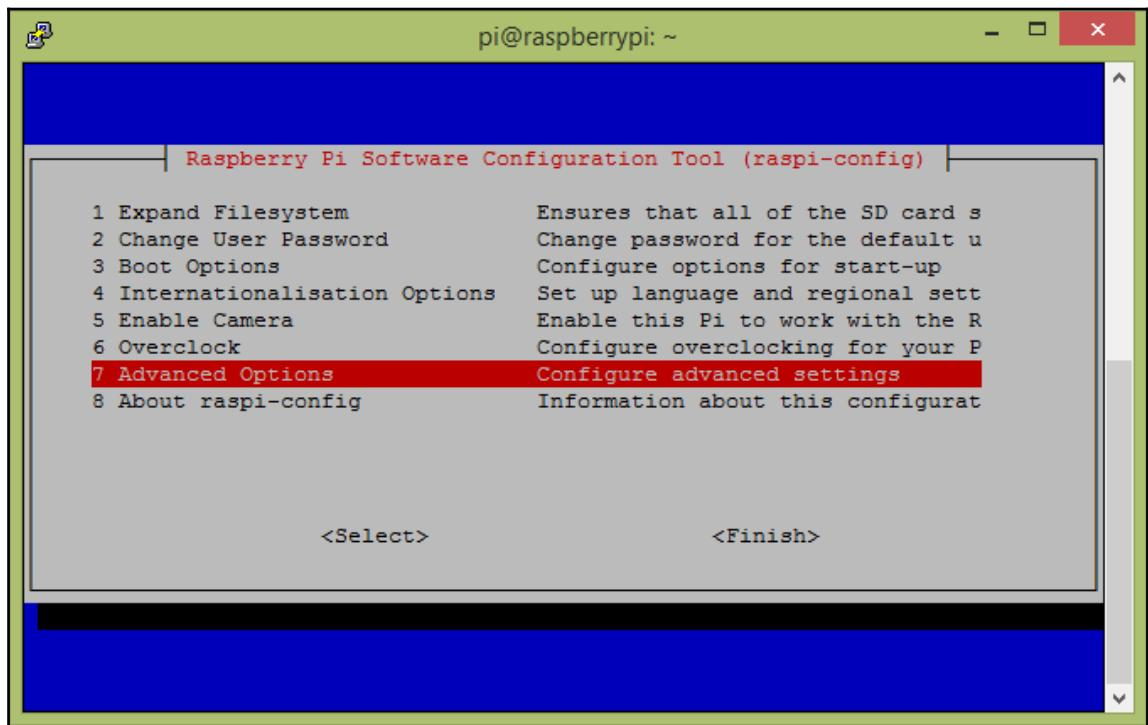

Figure 4-23: Selecting advanced options from the configuration tool window
3. Select **Advanced Options** from the Configuration Tool window (Figure 4-23) and press *Enter*: